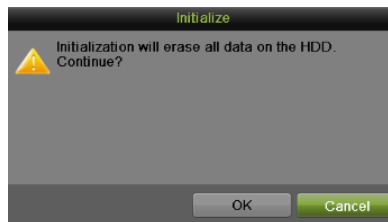

Figure 155 Disk Format Confirmation
4. A confirmation message, similar to the one shown in Figure 155 will appear on the screen. Click OK to continue formatting process.